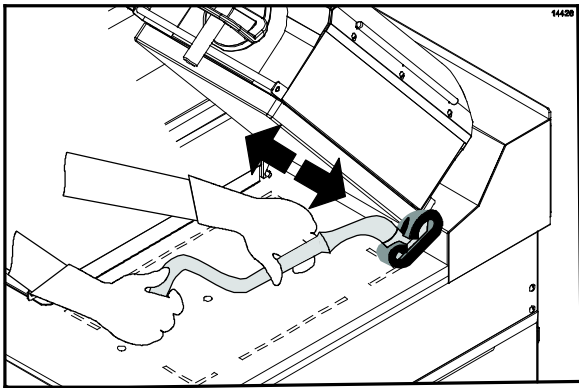

Figure 51
18. Apply the grill cleaner to the back side of the platens, from the right platen to the left platen. (See Figure 51.)